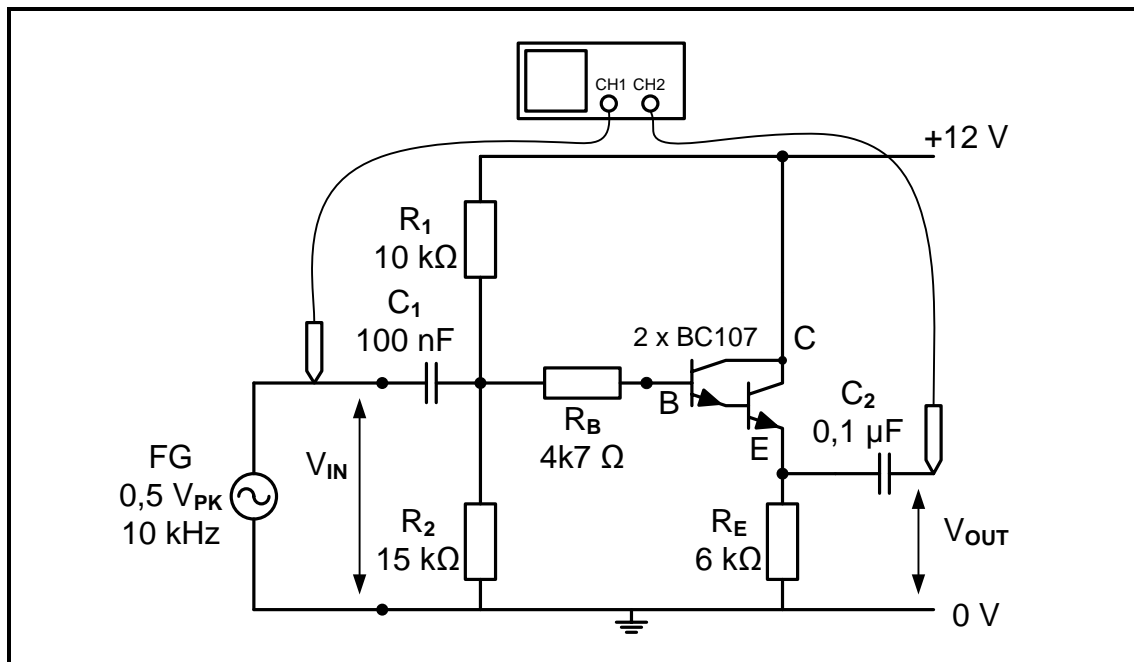

FIGURE 4.1.4: DARLINGTON TRANSISTOR AMPLIFIER
Construct the circuit on the breadboard or the digital trainer as shown in FIGURE 4.1.4 on the next page.
Connect the Darlington transistor amplifier as shown in FIGURE 4.1.4 on the next page.
- (h) Is the BC107BP transistor shown in FIGURE 4.1.4 a current or a voltage amplifier component? Motivate your answer.